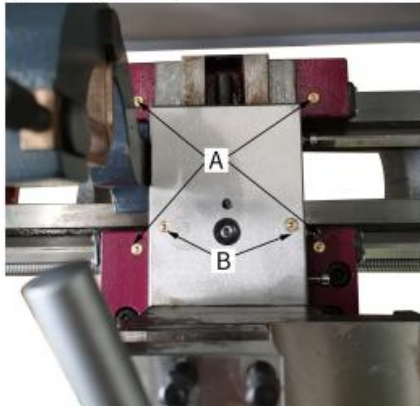

Fig. 36
2. Loosen knurled screw (B, Fig.36) and open the sliding fingers. (C, Fig.31) until the steady rest can be moved with its finger around the workpiece. Secure the steady rest in position.
Lubricate Four oil ports (A, Fig. 36) with 20W machine oil once daily.
Lubricate two oil ports (B , Fig. 36) with 20W machine oil once daily.